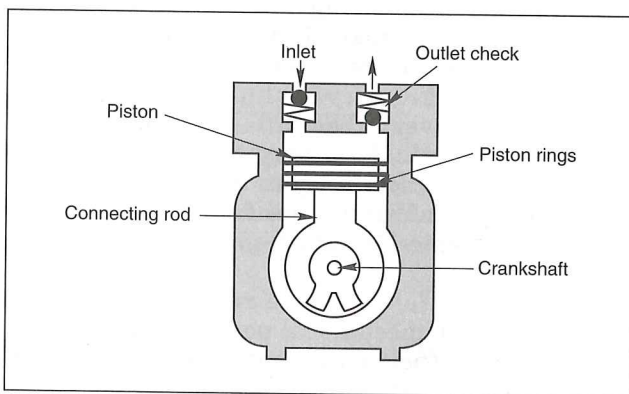

Fig. 9-8 — Check valves control flow direction as the reciprocating piston draws in and expels air.
**Reciprocating compressors.** This type of compressor, Fig. 9-8, consists of pistons that compress the air in cylinders and valves that control its inlet and outflow. Sizes range from less than 1 to over 5,000 hp. Reciprocating compressors are efficient and useful for a wide range of operating conditions.